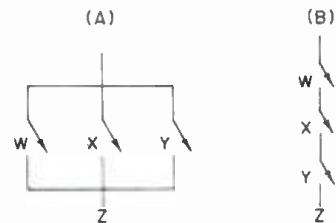

Figure 1. Two simple switching circuits.
In Figure 1, each circuit (A) and (B) contains three switches, w, x, and y. Depending on their positions—on or off—(1 or 0) there either is (1) or is not (0) an output at point z.
If you can stick this out a little longer, you'll see the point of getting so involved in defining what seems to be a simple collection of on/off switches. Applying Boolean algebra to Figure 1(A), we can say that there is an output 1 at point z if either w or x or y are closed (1). In Figure 1(B), z = 1 if, and only if, w and x and y are all closed.
The circuit in Figure 1(A) may be referred to as an *or* circuit, since there will be an output if w or x or y are closed. Figure 1(B) is an *and* circuit, since there will be an output only if w and x and y are all closed. The *or*
Figure 6 shows the first step in designing such a circuit. The black boxes labelled either *and gate* or *or gate* are transistorized versions of the switches shown earlier in Figure 1. *And gate 1* will conduct only if there is a potential at both points a and c, a condition which will exist only if diodes a and c are both conducting. And this will only happen if both waveforms L and R are negative. If they are both positive, diodes b and d will conduct, and *and gate 2* will conduct. In either case, *or gate 1* will conduct and a positive voltage will be found at point x. *And gates 3 and 4* will conduct only when waveforms L and R are unlike in sign, therefore *or gate 2* will conduct, and a negative voltage will be produced at point y. In the absence of information from either waveforms L or R, neither of the associated diodes will conduct, consequently none of the *and gates* will turn on, and there will be zero potential at both points x and y. Points x and y may be connected together, filtered, and fed to a zero center meter. A zero reading will indicate that during the measurement interval the waves L and